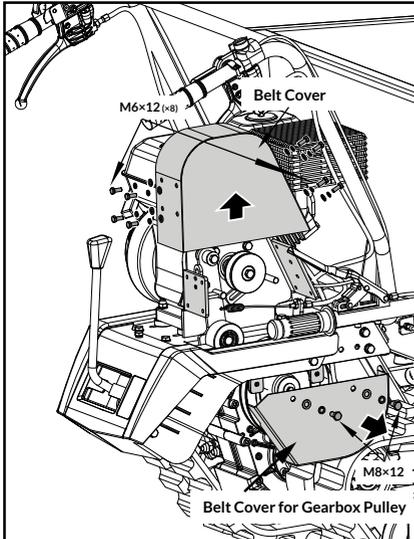

Figure 18
1. Remove the belt cover as shown in figure 18.